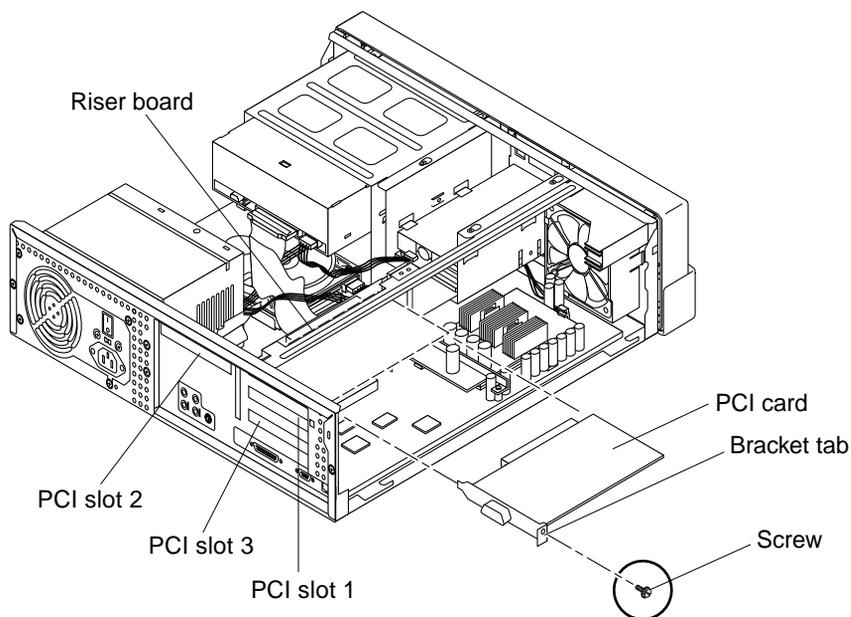

FIGURE 10-5 Removing and Replacing a PCI Card From PCI Slot 1 and/or 3 (Ultra 5)
6. Remove the PCI card from PCI slots 1 or 3 as follows (FIGURE 10-5):
2. Replace the PCI card into PCI slot 1 or 3, proceed as follows (FIGURE 10-5):